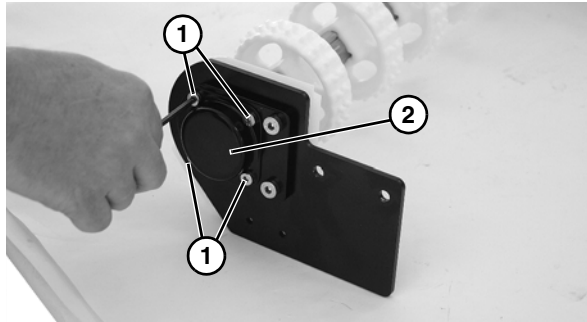

Figure 41
4. Remove the four socket head screws (Figure 41, item 1) and cover (Figure 41, item 2).